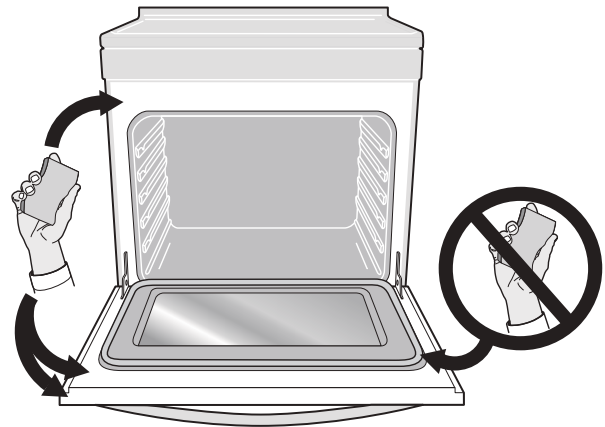

Figure 27: Areas to clean and areas to avoid (gasket)
- Do not spray oven cleaners or oven protective coatings in or around any part of the oven interior. Clean any soil from the oven frame, the door liner outside the oven door gasket, and the small area at the front center of the oven bottom (Figure 27). These areas heat sufficiently to burn soil on. Clean using soap and water prior to starting Self Clean.